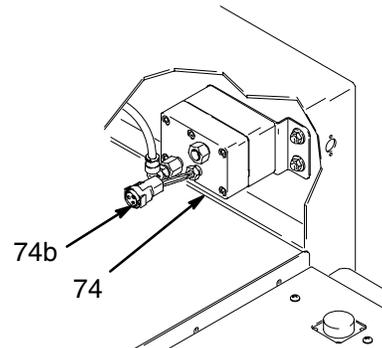

Fig. 5
12. If the external power option is used instead of the air driven power supply (74) inside the control, disconnect the wire harness from the power supply connector (74b). See Fig. 5.